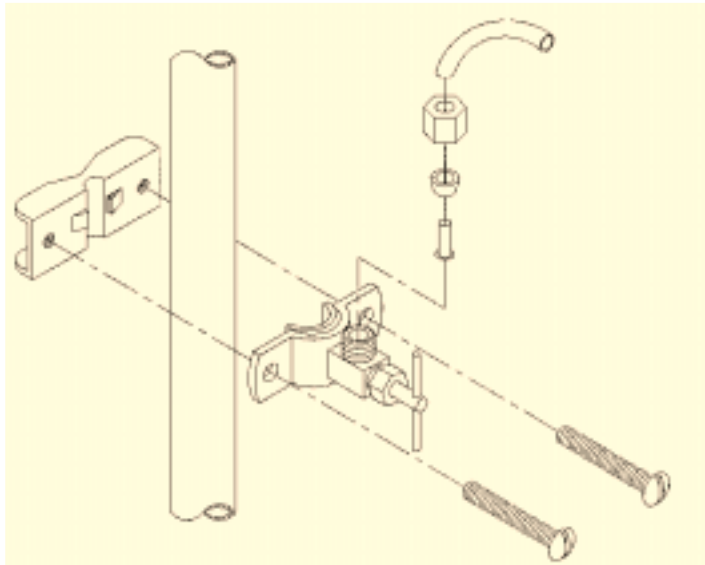

Figure 2
- d) Tighten screws evenly. Brackets should be parallel. Tighten firmly. Do not over-tighten. See figure 2.